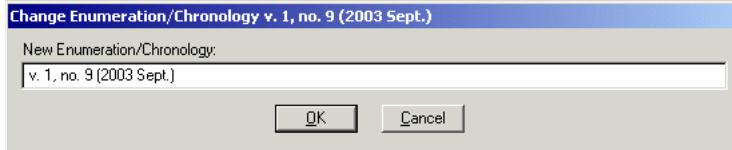

Figure 9-31. Change Enumeration/Chronology dialog box
2. Click the **Edit Issue** button or press **Alt + E** on your keyboard. The **Change Enumeration/Chronology** dialog box opens (see Figure 9-31).